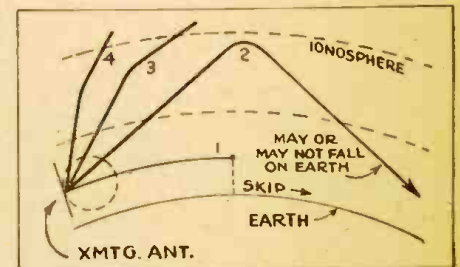

Fig. 4(d).—As the frequency increases, the higher-angle rays penetrate the Heavyside Layer, and those that return may miss the earth.
Let us now consider Figs. 4-A, -B, -C, and -D. We have shown in each a restricted cross-section of the Earth's surface, as represented by the long, curved lines, and the overlying Ionosphere, as represented between the two long, curved, broken lines. We also have our vertical antenna, as in Fig. 3, emanating 4 typical waves—the ground wave (1), and the low (2), medium (3), and high (4) angle waves.
In Fig. 4-A, the wavelength is very long (low frequency) as in commercial broadcast stations; in 4-B and 4-C the wavelength is shorter and shorter until in Fig. 4-D we have represented conditions obtaining at the ultra-short wavelengths, say, something of the order of 5 meters or so.
(1.) For a given wavelength, the higher the angle of radiation, the deeper it penetrates into the ionosphere, or, otherwise stated—the harder it is to reflect. Thus in Fig. 4-A, for example, the high-angle wave (4) penetrates deep into the Ionosphere before it finally gets sent back to Earth. The medium-angle wave (3) is reflected much sooner, while the low-angle wave (2) barely skims the lower level of the layer. Compare this with the other three figures.
(2.) For a given wavelength, the higher the angle of a reflected wave, the closer to the station it will return to Earth. Low-angle waves give better "DX" than high. In Fig. 4-A, again, we note that the high-angle wave returns to Earth much closer to the station than does the medium (3) wave, while the low-angle wave returns farthest away of all. Compare with the other figures.
(3.) For a given angle of radiation, the shorter the wavelength, the deeper into the ionosphere it penetrates; or the shorter the wavelength of a wave, the harder it is to reflect. Let us consider the medium-angle waves (3), for example. In Fig. 4-A, where the wavelength is long, it is easily returned to Earth; in Fig. 4-B (shorter wavelength), it is also returned, but not until it has penetrated much deeper into the Iono-
sphere; in Fig. 4-C, where the wavelength is shorter still, it penetrates to the uppermost reaches of the Ionosphere before finally getting turned back; while in Fig. 4-D, at an ultra-short wavelength, the medium angle wave penetrates the Ionosphere completely and goes on out into space. Observe the behavior of the high (4) and low (2) angle waves in Figs. 4-A, -B, -C, and -D.
(4) For a given angle of radiation, the shorter the wavelength, the farther away from the station it returns to earth. Note the low-angle waves (2) in the figures where, as the wavelength becomes progressively shorter, the distance from the station at which the wave returns to Earth becomes progressively greater.
(5) Notice that at the relatively longer wavelengths (Figs. 4-A and 4-B) the reception is continuous until the waves become too attenuated to actuate receiving systems any longer. The ground wave takes care of receivers up to 40 miles or more, and the easily-reflected long-wavelength sky waves return to Earth continuously to maintain communication.
However, for the short wavelength used in Fig. 4-C, entirely different circumstances obtain. Here the high-angle waves (4) are lost out in space—the Ionosphere failing completely to return them—and the medium-angle radiation returns to earth well beyond the ground wave region thereby creating a skip distance range. Generally speaking, the skip distance range increases as the wavelength decreases until, when we get up into the ultra-short waves (Fig. 4-D) the Kennelly-Heaviside Layer is unable to return either the high or the medium angle waves, and usually either fails or encounters great difficulty in returning even the low angle waves, which frequently are reflected at such small angles that they come down and miss the earth.